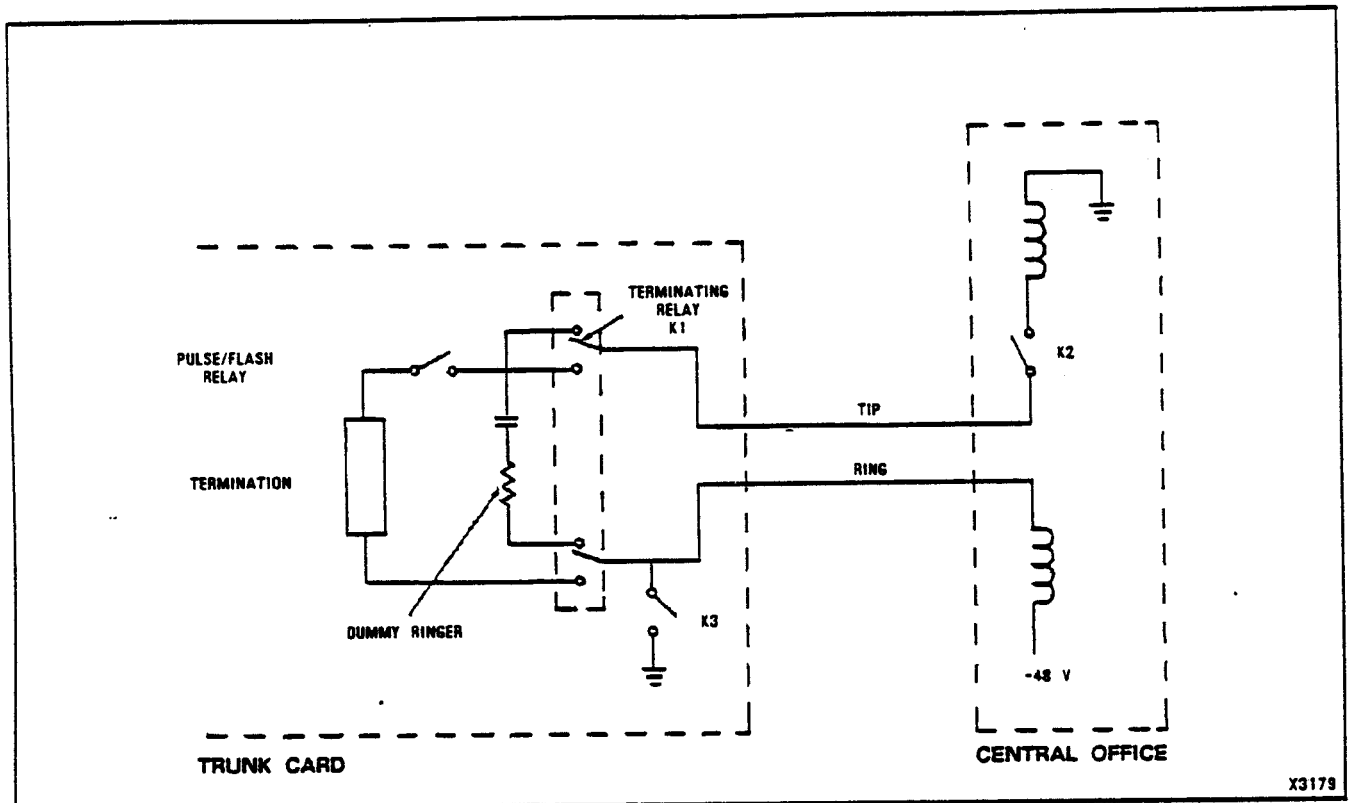

Fig. 9-6 Central Office Trunk Circuit - Ground Start
9.11 Ground Start (refer to Fig. 9-6): Ground start is a handshake method of initiating a CO trunk call. The local trunk circuit grounds the RING lead and awaits recognition by the CO. The CO signals recognition by grounding the previously floating TIP lead. 40 ms after the trunk recognizes 100 ms ground on the TIP lead, a termination is placed across Tip and Ring and 40 ms later the ground on the RING lead is removed. The CO then provides dial tone.